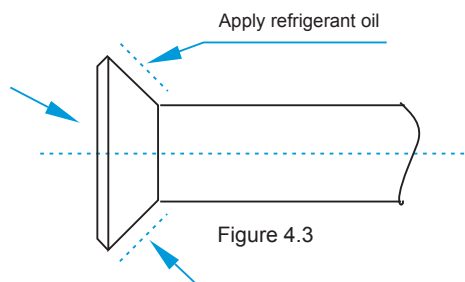

Figure 4.3
- Before the socket cap is installed on the pipe socket, apply some refrigerant oil on the socket (both inside and outside), and then rotate it three or four times before you tighten the cap. See Figure 4.3.